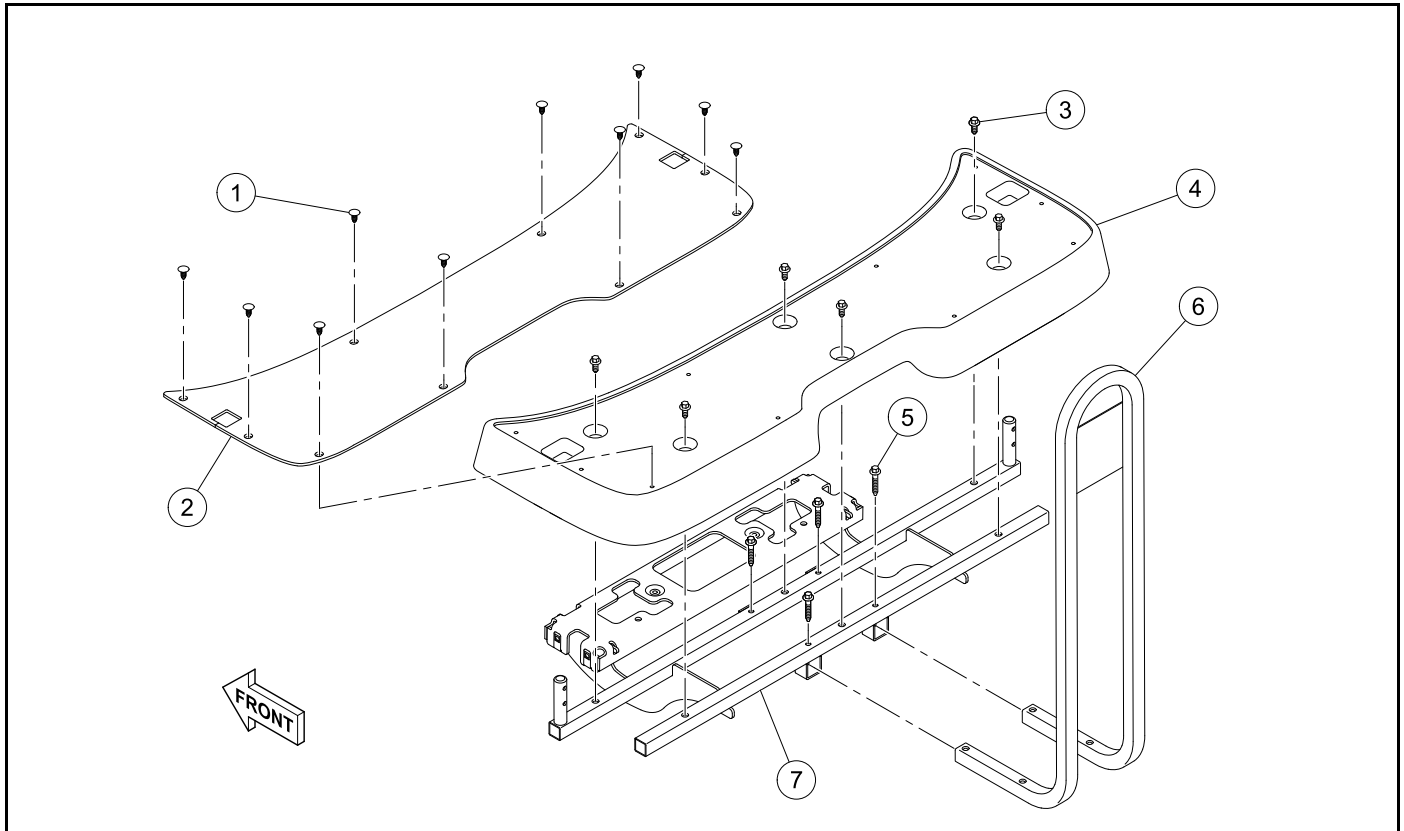

Figure 4-53
1. Remove the push rivets (1) (**Figure 4-53**).
2. Remove the floor mat (2).
3. Remove the screws (3).
4. Remove the foot deck (4).
5. Remove the screws (5).
6. Remove the handrail (6) from the foot deck support (7).